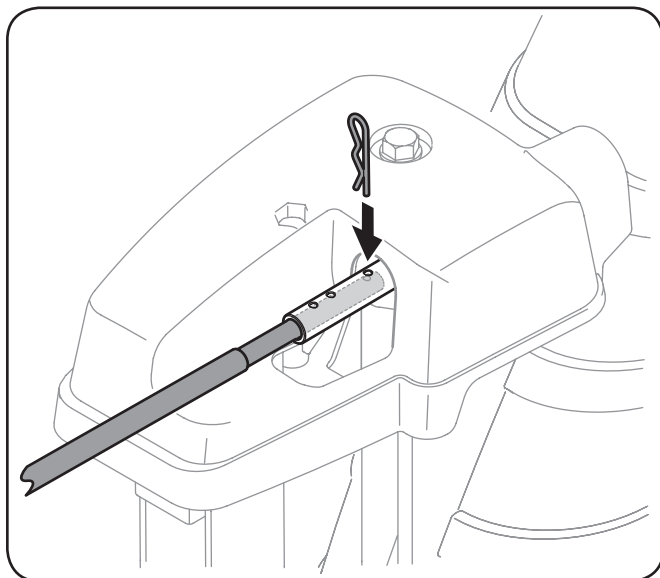

Figure 4-2
2. Push in the chute control rod until the hole in the rod lines up with the third hole indicated in Figure 4-2.
3. Reinsert the cotter pin through this hole and the chute control rod as shown in Figure 4-2.
4. Grasp the chute control rod and manually rotate the chute assembly to the right or left. See Figure 4-2.